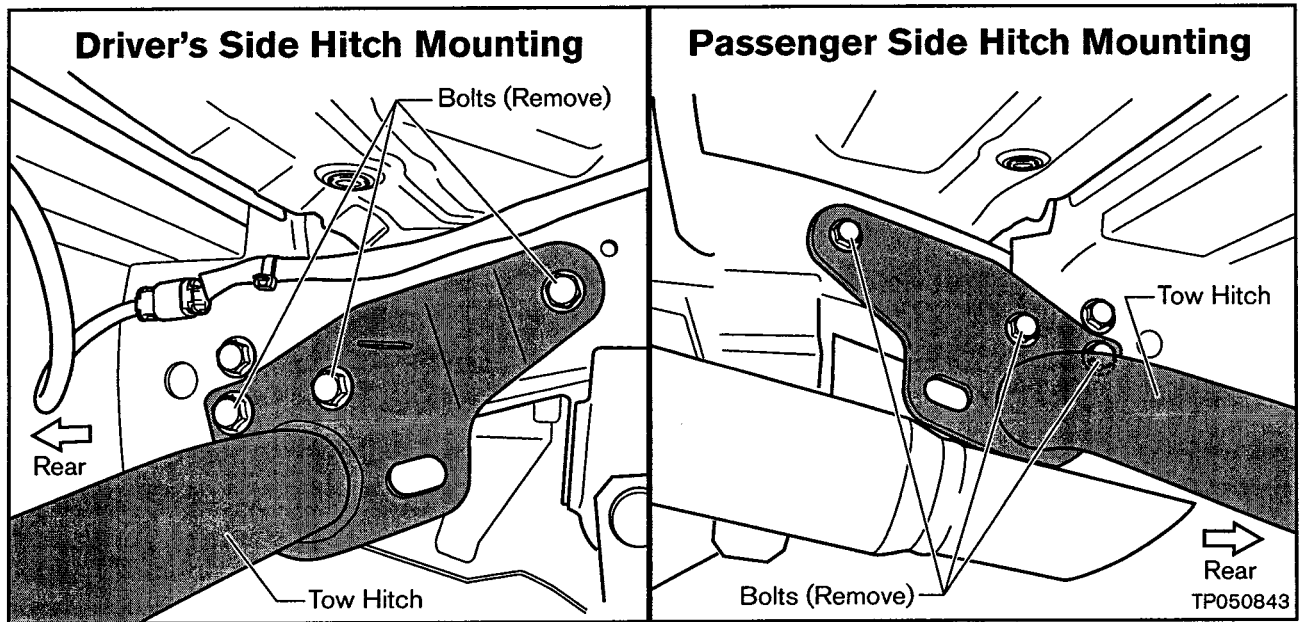

Figure 10
10. Remove the six Bolts that secure the Tow Hitch (see Figure 10).